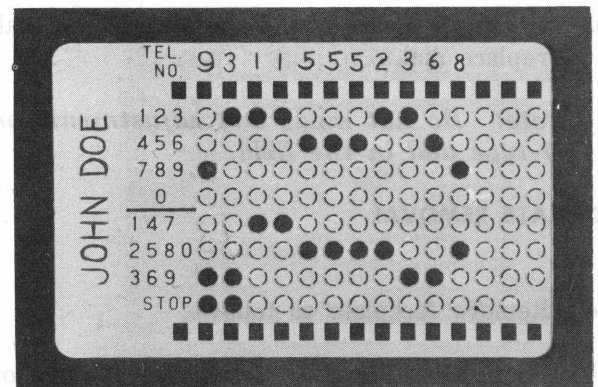

Fig. 9—Card Coded for Access Code (9), Stop, Area Code (311), and 7-Digit Telephone Number
**3.07** In certain PBX systems, it may be necessary to dial an access code to obtain central office dial tone. To prepare a card (Fig. 9) proceed as follows: